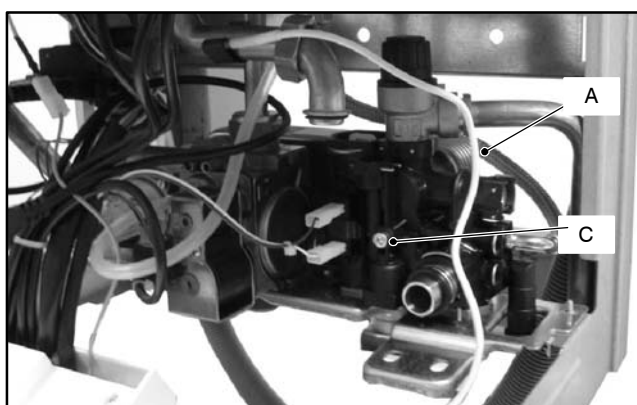

Fig. 6.4
- 6 Completely unscrew the Allen key screws C (Fig. 6.4) which hold the exchanger to the plastic groups.